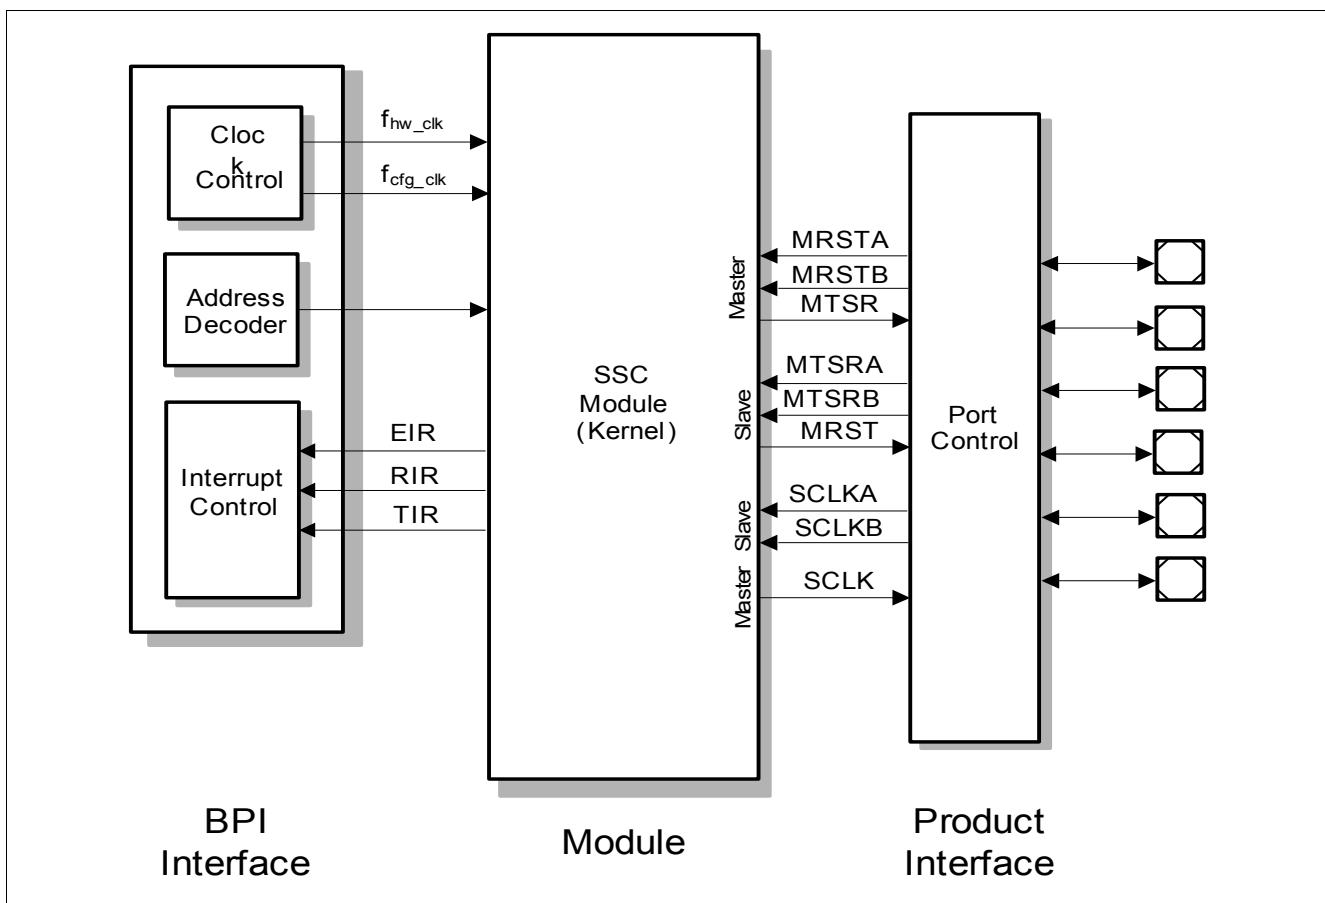

Figure 24 SSC Interface Diagram
**Figure 24** shows all functional relevant interfaces associated with the SSC Kernel.